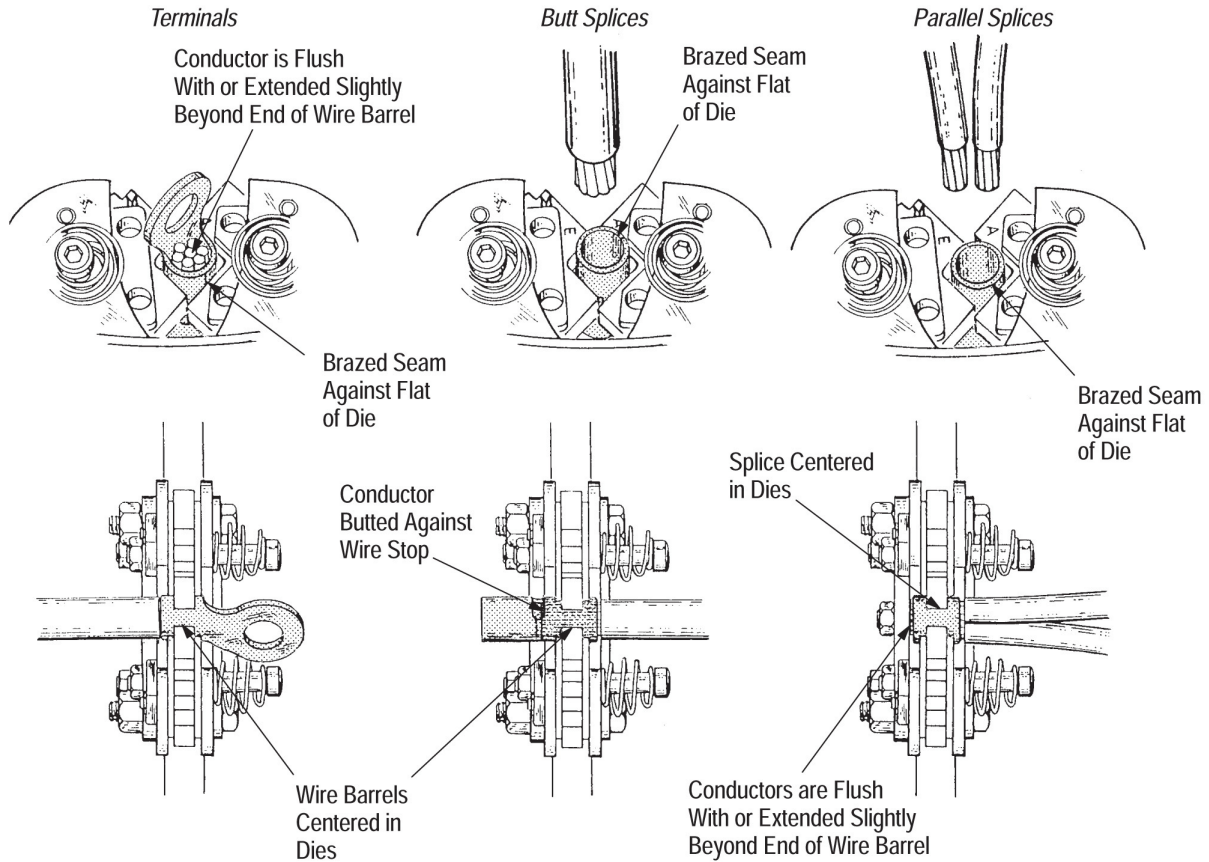

Figure 4
See Figure 4.
1. Center the wire barrel of the terminal or splice in the dies. For best results, position the brazed seam of SOLISTRAND terminals against one of the “flats” of the dies, as shown in Figure 4.
3. Insert the stripped wire into the terminal or splice until the wire conductor is at least flush with, or is extending beyond, the end of the wire barrel, as shown in Figure 4.